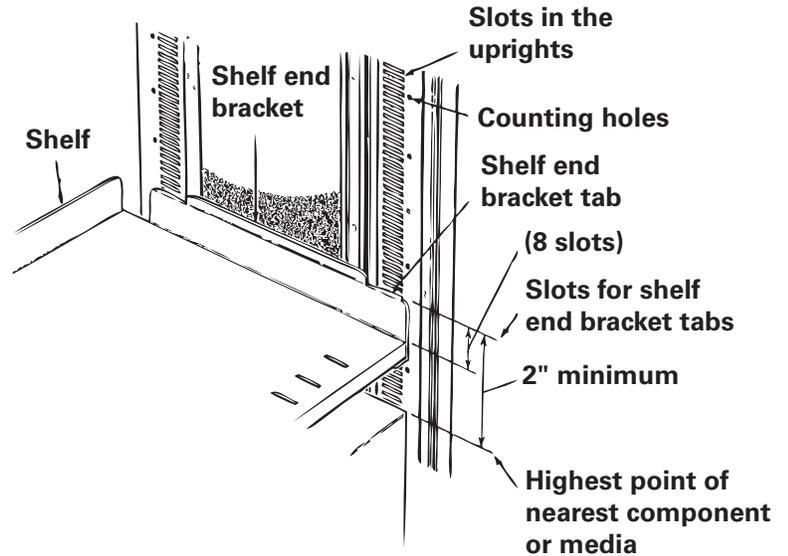

Figure 1. Shelf locating
1. A fixed shelf must be located a specified distance above the nearest component or any media stored below it (see figure 1). Locate the appropriate slots in the uprights for mounting the two shelf end brackets. *Make sure all the slots are at the same level.* Use the counting holes in the uprights as a guide when counting slots for spacing. **Note:** *all the slots are 1/4" apart; the counting holes are 2" apart.*